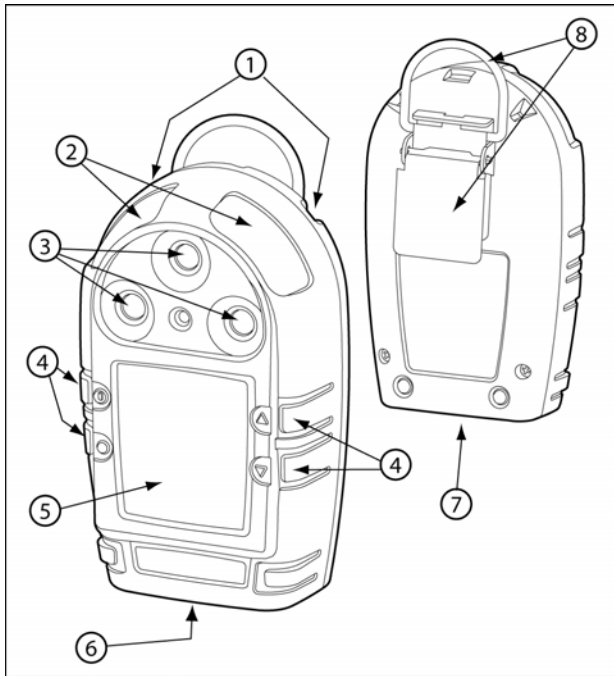

Figure 1. GasAlertMicro Detector
- Figure 1 and Table 3: GasAlertMicro Detector